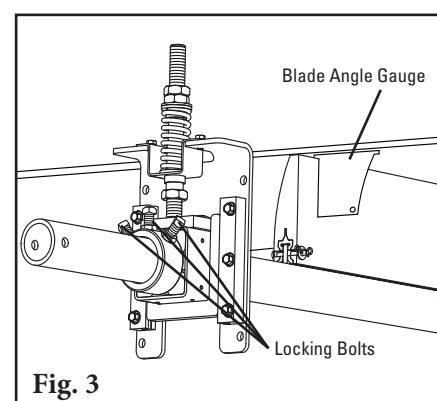

Fig. 3
3. **Remove and save top hat bracket and its hardware** (Fig. 3).
(If the pole was not turned down or removed, skip to Step 4.) Center the pole/blades on the belt. Using the tip gauge, align the blade so the top of the gauge is aligned with the belt (Fig. 3). Tighten the three locking bolts on each tensioner to lock the pole in place. Best practice is to first tighten the middle bolt before tightening the outer bolts to ensure everything is secure (Fig. 3).